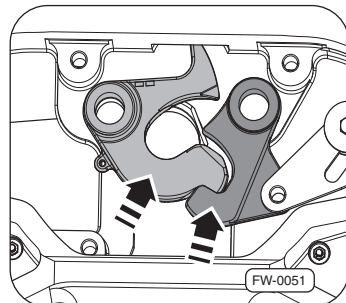

Fig. 35 · Fitting the lock jaw and lock hook
1. Fit the new lock jaw and lock hook ⇒Fig. 35.